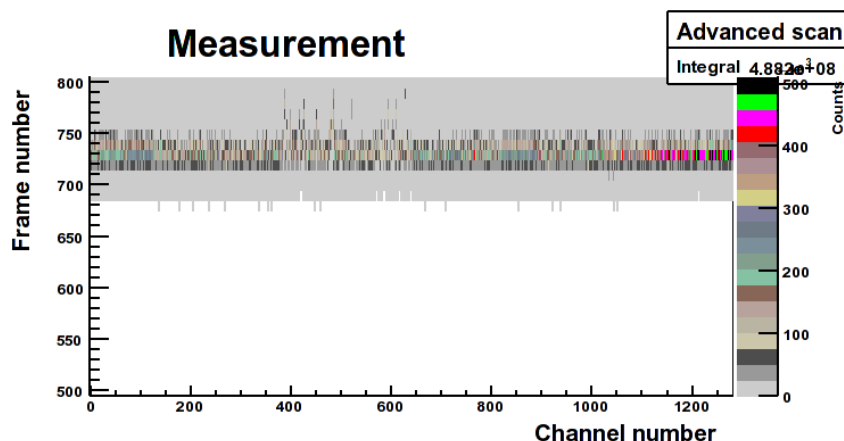

Figure 2.10: The trimmed threshold scan.
6. Execute the threshold scan again to verify the trimming was done properly. A plot similar to the one in figure 2.10 should appear.